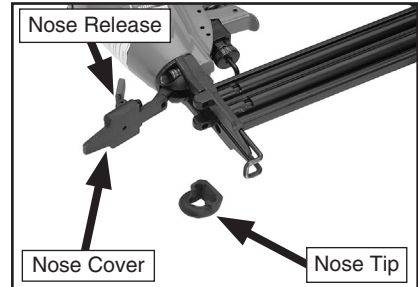

Figure 7. Nose opened to clear a jam.
4. Open the nailer nose by removing the rubber nose tip, depressing the nose release mechanism, and opening the nose cover as shown in **Figure 7**.